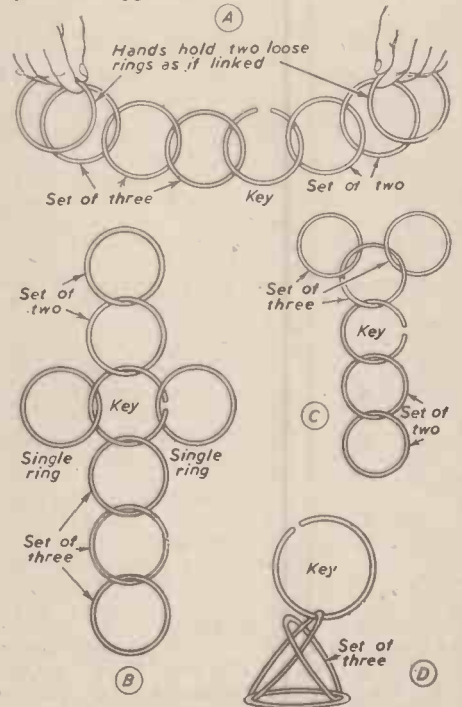

Fig. 15. Various arrangements of the rings. Each move is fully described in the text.
The manipulation of the rings can now continue according to the fancy of the conjurer, the various sets and single rings being linked into designs by means of the key. Some examples are given in Fig. 15. (A) is a watch chain and is held